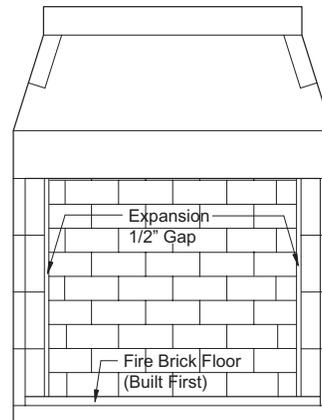

FIGURE 77
4. Next, apply firebrick to the back wall of the unit. The back wall firebrick covers the 1/2" expansion gap left at the brick floor along the back wall of the firebox. (Figure 77)